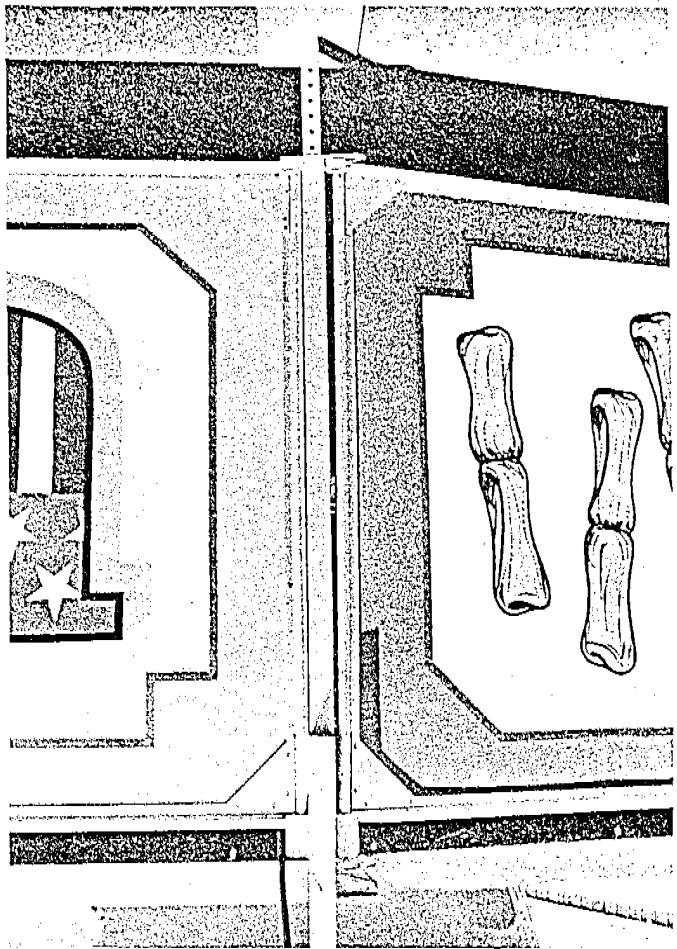

Fig. 41
- (1) Place the painted ballys around the front and the sides of the ride. Place the unpainted ballys toward the back.
- (2) Slide the edges of the ballys into the brackets on the walkway support frame legs. (Fig. 41)